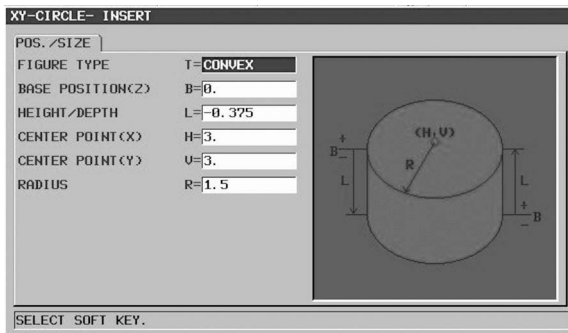

Figure 7-57 XY-CIRCLE, POS./SIZE
- Press the SELECT soft key to input the Position and Size. Complete the entries per Figure 7-57. Press the INSERT soft key when done.